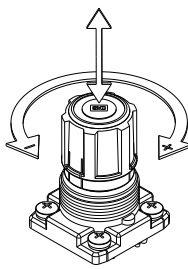

Fig.4 Governor handle
- To increase the set pressure by unlocking the handle slightly pulling it up, and, rotating it in the (+) direction of the arrow (see Fig.4).
- To decrease the set pressure after the pressure has been set, unlock the handle, and then rotate the handle in the (-) direction of the arrow (see Fig.4). The residual air will be released from the area of the handle, due to the relief construction of the governor.